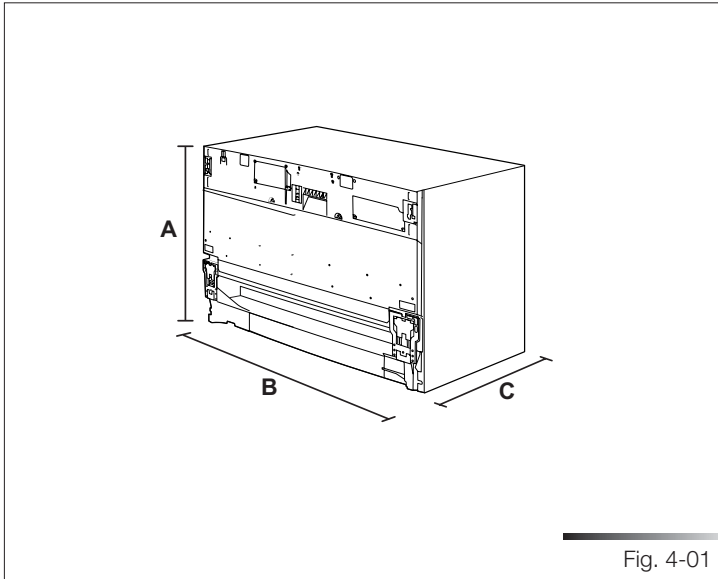

Fig. 4-01
The progressive number of each figure is shown in the bottom right-hand corner of the relative box. An example of a progressive number is “Fig. 4-01”, where the first number (4) indicates the section to which the figure belongs, while the second number (01) indicates the progressive number of the figure in section 4 (Fig. 4-01 is the first figure in section 4). The tables are numbered in the same way, bearing in mind that “Tab.” is used instead of “Fig.” (e.g.: Tab. 4-01 is the first table in section 4). If a table occupies more than one page, a letter is added after the progressive number (e.g.: “Tab. 4-01a”, Tab. 4-01b”).
4 DIMENSIONS OF DISHWASHER (SEE FIG. 4-01)